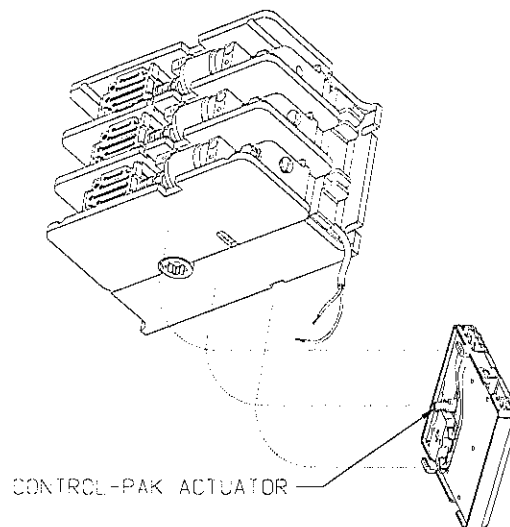

FIGURE 3E
- Reinstall the Control Pak (FIGURE 3E). First, insert the lower tab into the recess on the side of the contactor base. With proper installation, the Control Pak Actuator will fit into the hole in the center of the brass stud - which can be viewed through the slot in the side of the contactor housing. Using a thin screw driver or other thin rod, push the Control Pak Actuator up or down as necessary to insert it into the brass stud mentioned.
4. Install the new Control Pak (FIGURE 3E). First, insert the lower tab into the recess on the side of the contactor base. With proper installation, the Control Pak Actuator will fit into the hole in the center of the brass stud - which can be viewed through the slot in the side of the contactor housing. Using a thin screw driver or other thin rod, push the Control Pak Actuator up or down as necessary to insert it into the brass stud mentioned.